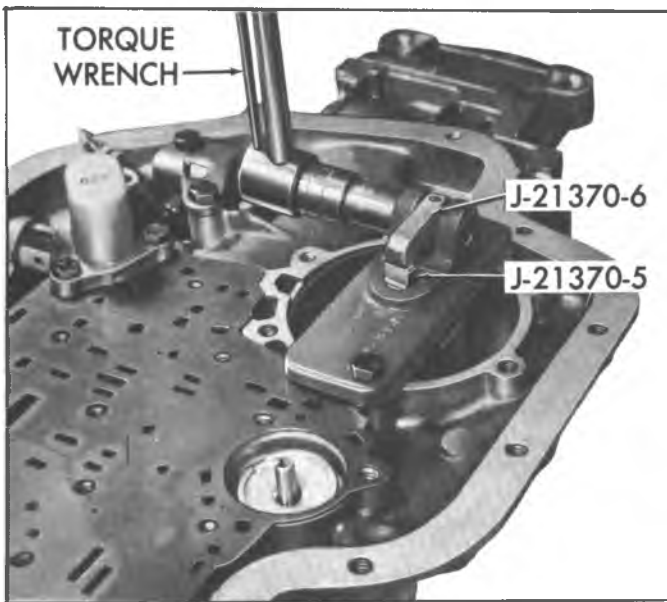

Fig. 13T--Checking Rear Band Apply Pin
4. Make band apply pin selection check to determine possible cause of malfunction (fig. 13T).
- a. Attach band apply pin selection Gauge J-21370-5 and J-21370-6 to transmission case with attaching screws checking to make certain the gauge pin does not bind in servo pin hole (fig. 13T).